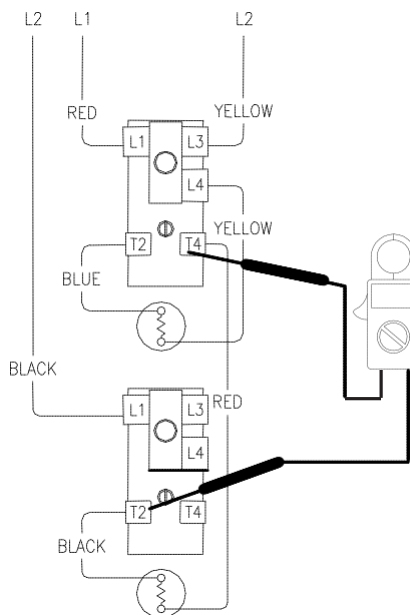

Figure 27
(see Figure 27).
5. Check across terminals T4 of upper thermostat and T2 of lower thermostat (see Figure 27 above).